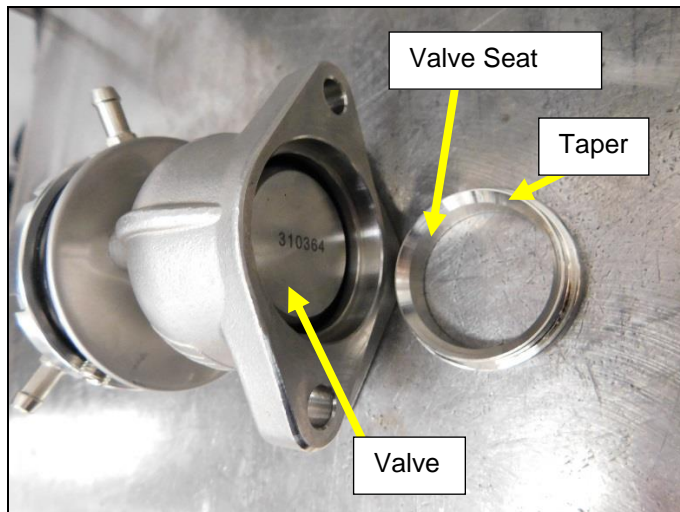

Figure 46
1. Make sure the valve seat is installed correctly with the taper on the seat in toward the valve (**Figures 46 & 47**).
- a. Install the supplied valve seat into the body of the wastegate with the tapered side towards the valve and the flat side facing out (**Figures 46 & 47 on page 49**).